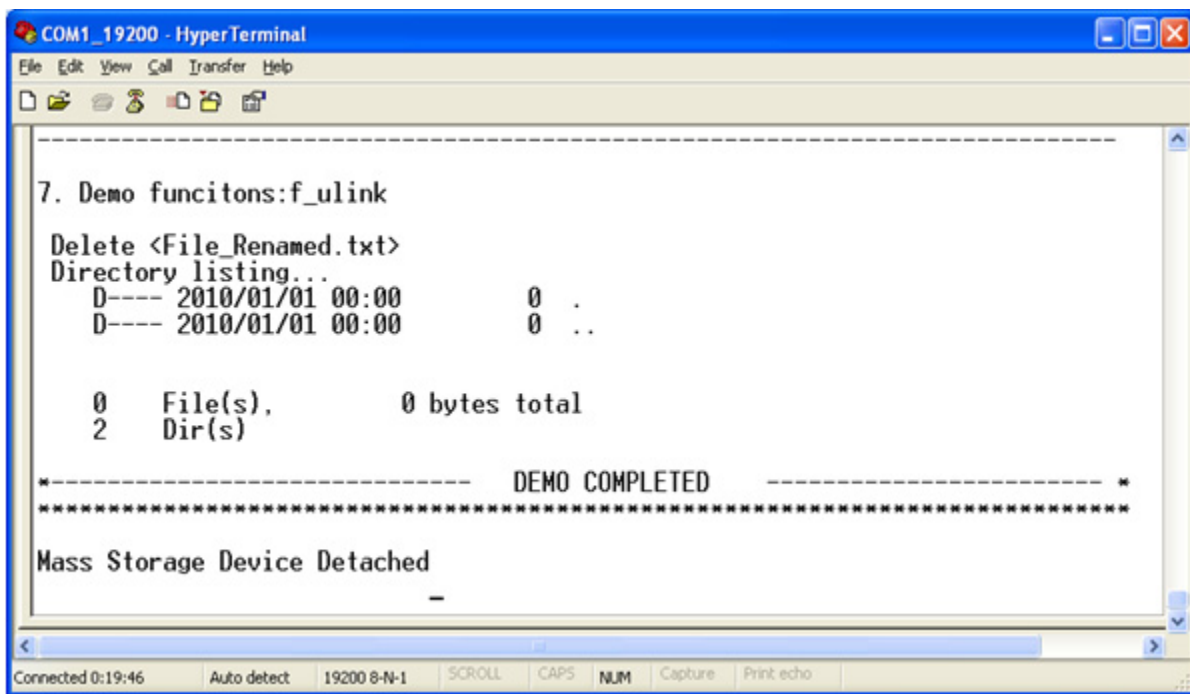

Figure F-2. Mass storage device detached
- Unplug mouse from board. The HyperTerminal shows a message as shown in Figure F-2.